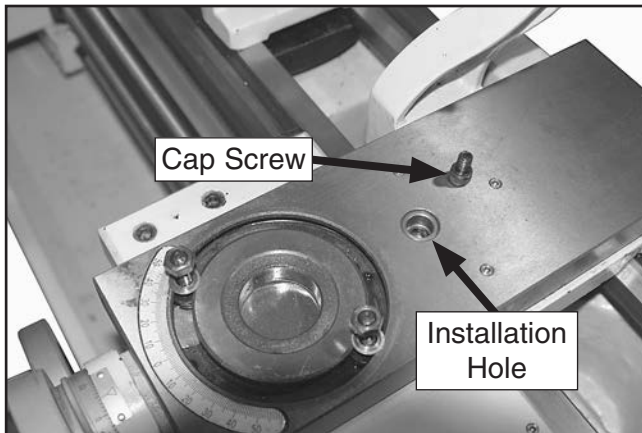

Figure 5. Cap screw removed that secures cross slide to leadscrew nut.
5. Remove the cap screw shown in **Figure 5**. This cap screw secures the cross slide to the leadscrew nut.